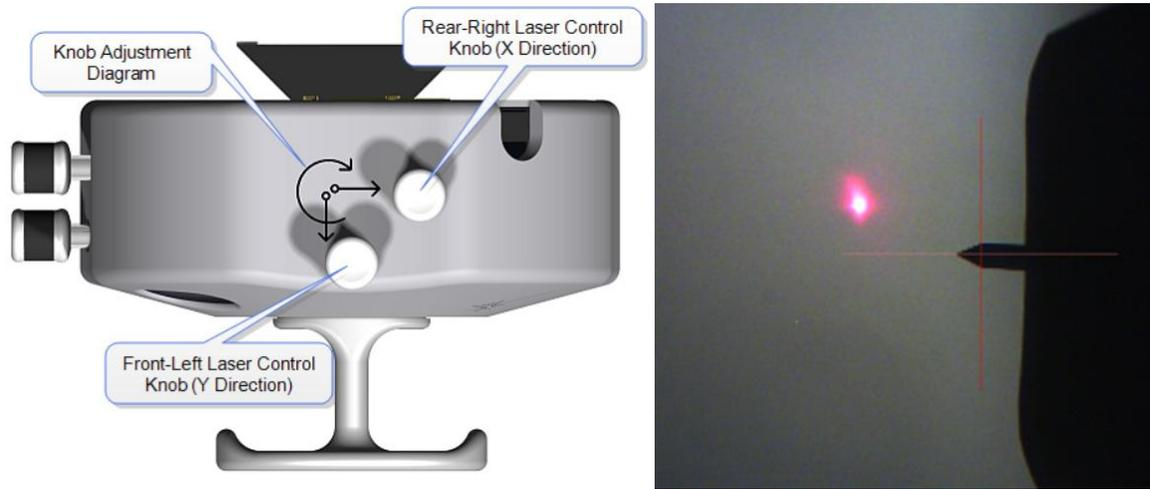

Figure 9. (Left) The Laser Control knobs on the Dimension Icon head and (right) The laser spot near the cantilever.
19. Figure 9 (left) shows the laser control knobs on the Dimension Icon scanner. Adjust the laser control knobs to move the laser onto the tip end of the cantilever. You can observe the movement of the laser in Figure 9 (right).